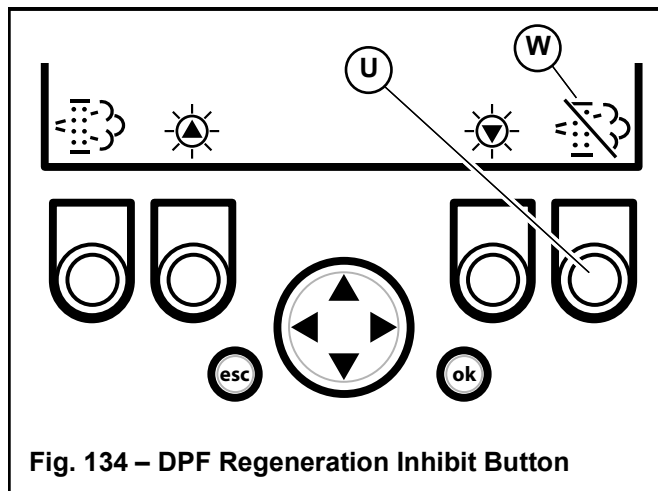

Fig. 134 – DPF Regeneration Inhibit Button
To temporarily inhibit reset regeneration, hold down the button (U, Fig. 134) until the strikethrough in the Reset Regeneration symbol (W) turns to red.
**NOTE:** The stationary regeneration request screen can be temporarily dismissed by pressing the reset regeneration inhibit button (U, Fig. 134) for 3 seconds until the previous screen displays. The stationary regeneration request screen will return 1 minute after being dismissed and remain as long as the request is active.